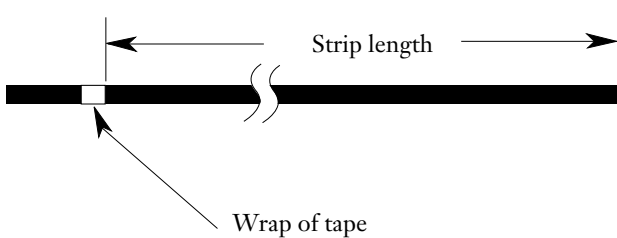

Figure 2
4.1 Determine the proper sheath removal length for the hardware being used. Mark a point at this distance from the end of the cable with a wrap of tape (Figure 2).